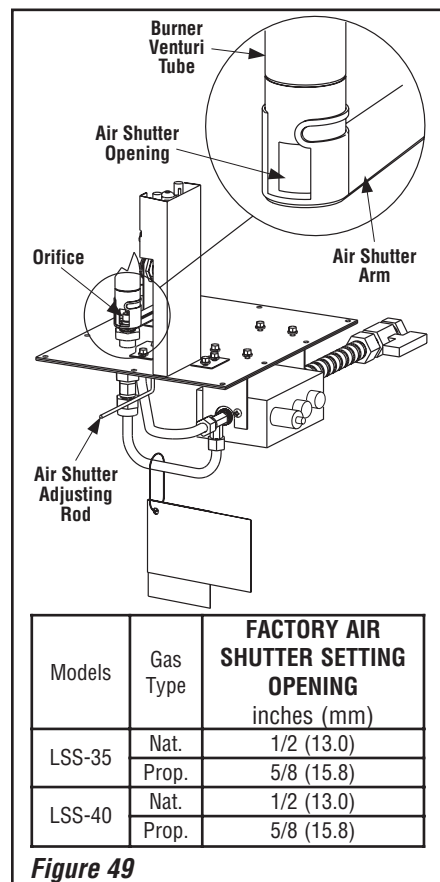

Figure 49
To adjust the flame, rotate the air shutter adjustment rod toward the back or toward the front of the fireplace (rod located in the lower control area). Position the air shutter to the factory setting as shown in the Table of *Figure 49*. Allow the burner to operate for at least 15 minutes. Observe the flame continuously. If it appears weak or sooty as previously described, adjust the air shutter by pushing or pulling on the adjustment rod until the flame appearance is as desired.
The appliance has a built-in vent restrictor, refer to *Figure 49* for location of the adjustment rod, to adjust the flow of exhaust gases. This ensures proper combustion for all vent configurations. Depending on the vent configuration, you may be required to adjust the restriction position. See below for guidelines.
* Adjustment to the air shutter may be required to get the desired flame appearance, (refer to *Figure 49*).